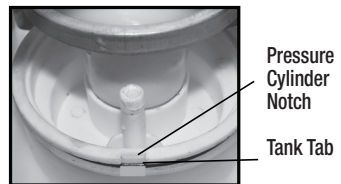

Figure 7
- 8) Reassemble in reverse of removal. Note: there is a notch/tab combination in the pump assembly/tank to be used for alignment (fig. 7).